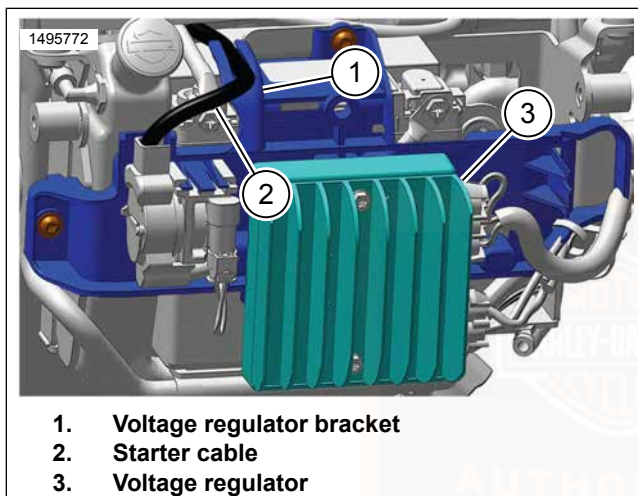

Figure 80. Negative Cable Bracket
- a. See Figure 80. Route starter cable (2) in bracket (1).